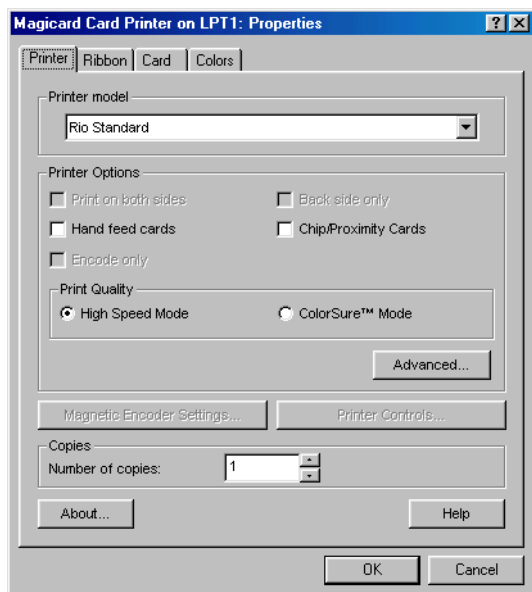

Figure 6: Printer Configuration Options – Printer Tab
4. Click the  button. The printer control window appears displaying the printer configuration options beginning with the Printer Tab (see Figure 6).
- Based on this selection, certain options are enabled in the “Printer Options” and “Print Quality” fields according to the features within the printer (see Figure 6 on page 7). Of these options, enable those that apply to your printer’s capabilities and your printing requirements. For example, if you have a Tango Printer (capable of printing on both sides of a card), you may want to enable the “Print on both sides” feature for two-sided card printing.